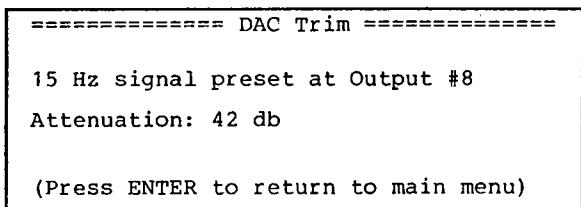

Fig. 5-5
2. Then the following screen will appear to indicate that the sine wave has been loaded and the MSB adjustment mode is set. (Refer to Fig. 5-5)